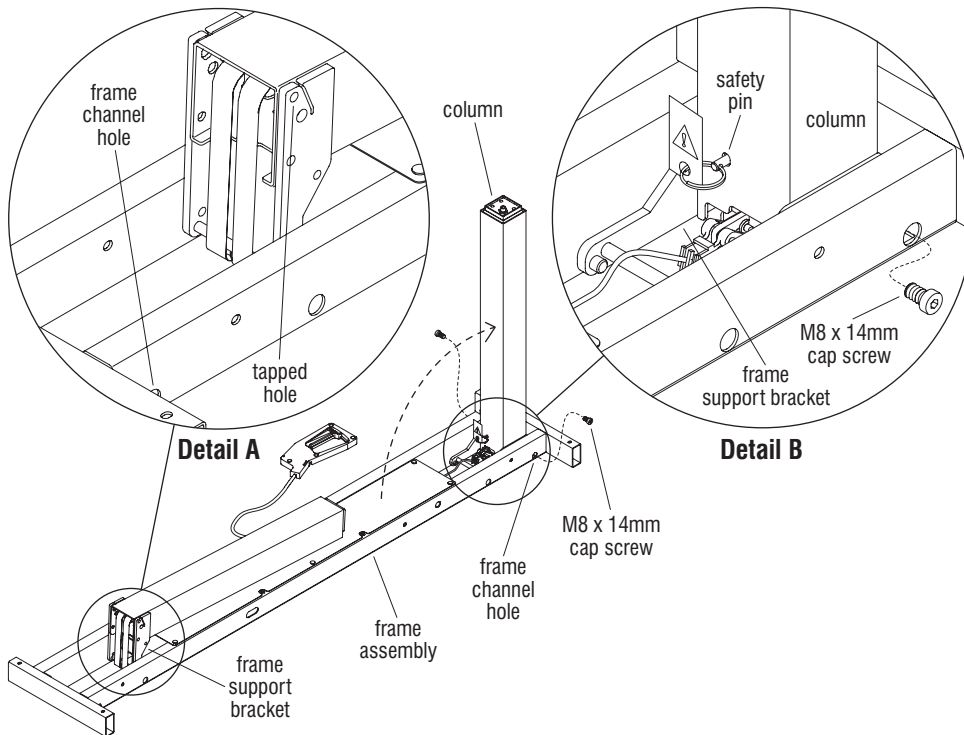

Figure 1
1. Position the folded frame assembly as illustrated, onto a soft, protective surface. Rotate the top-most of the two columns up vertically until the two tapped holes in the column align with the frame channel holes (Figure 1 & Detail B).
2. Loosely insert two M8 x 14mm screws from the outside, at each side of the frame support bracket, through the frame channel holes and into the inner tapped holes. Do not tighten at this time (Figure 1 & Detail B).
4. Repeat the steps above for the second column (Figures 1 & 2, Details A & B).